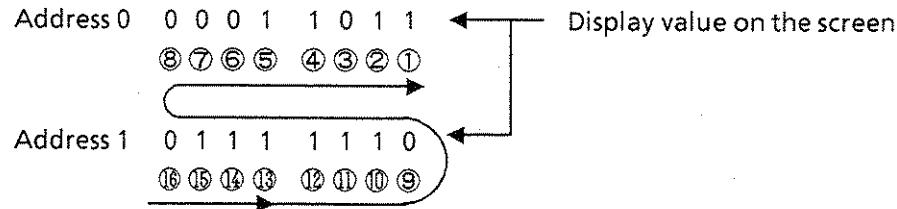

Fig. 6-14 Word Pattern Sending Order
Outputting the idle pattern and word pattern is performed starting from the LSB of the value displayed on the screen. For example, the word pattern is transmitted from the LSB bit of each address in order as shown in Fig. 6-14. (In the order from ① to ⑩.)